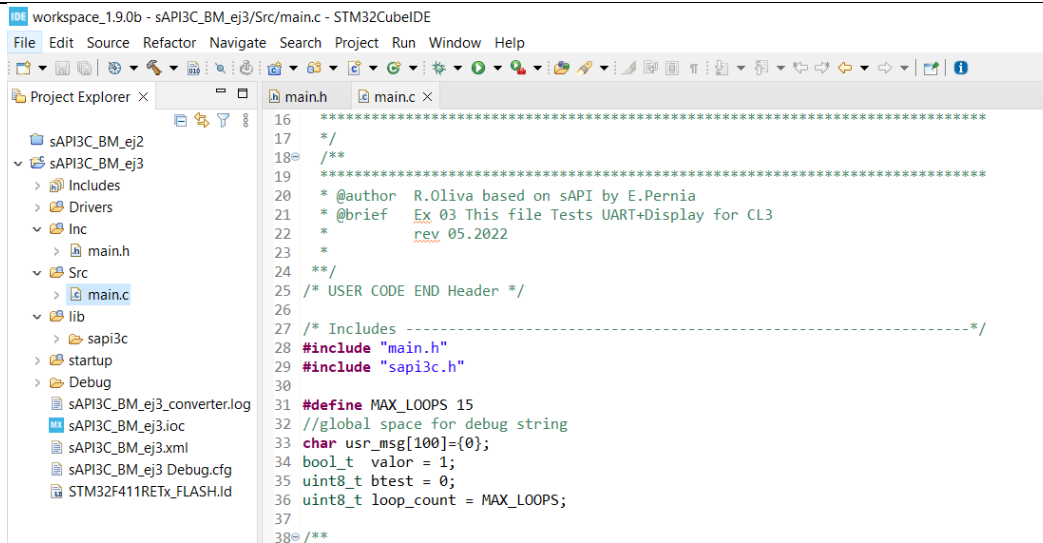
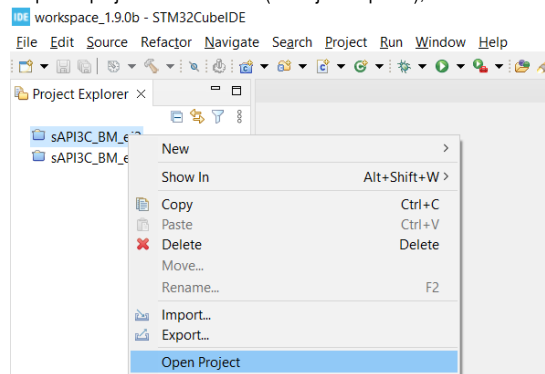
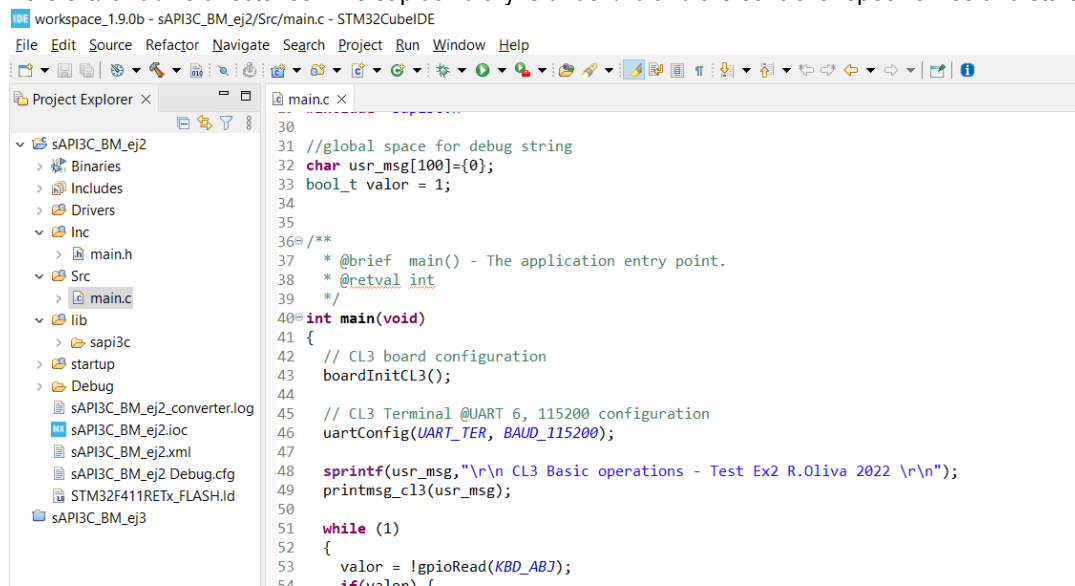

Figure 9 – STM32CubeIDE imported project initial structure (in Project Explorer), and file content of one of the CL3 Examples
Figure 10 – Right click on Project Explorer to open/close a project on STM32CubeIDE
Figure 11 – CL3 Example 2 Structure in STM32CubeIDE
the left pane can be expanded to observe the file structure of the example as in Figure 9. Once imported, the examples can be opened or closed by right-clicking on the Project Explorer as in Figure 10.
3.a Example 2 (sAPI3C_BM_ej2) : This simple program simply blinks the OLED general purpose on-board LED. Open the sAPI3C_BM_ej2 example as in Figure 10 and expand the directory structure as shown in Figure 11. The upper-layer user defined programs are in the src/ and /inc directories. The sapi3c library is under /lib and the controller specific files and startup code.